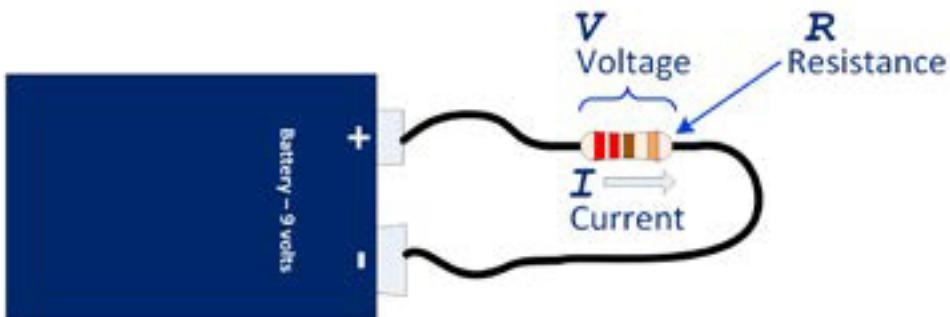

Figure HT4-2. Resistor connected across a 9-volt battery
Figure HT4-2 shows a resistor of value 220 ohms connected across a 9-volt battery. Notice current (I) flows through the resistor and encounters resistance (R). This results in the voltage (V) that can be measured across the resistor.